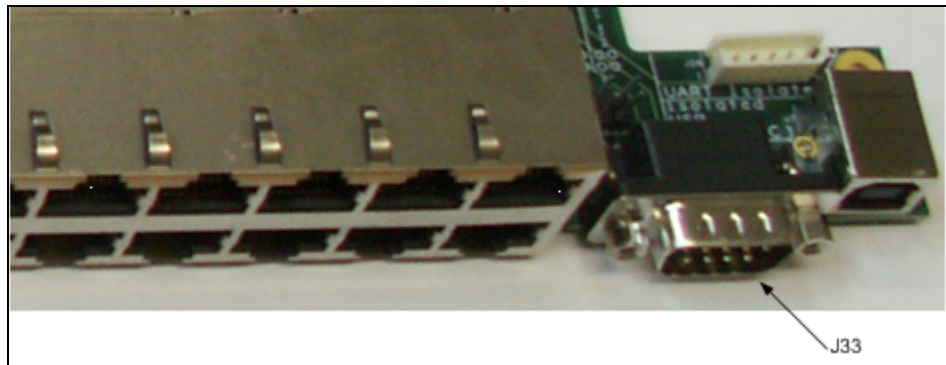

Figure 11: Isolated RS232
7. Isolated RS232 (see Figure 11)